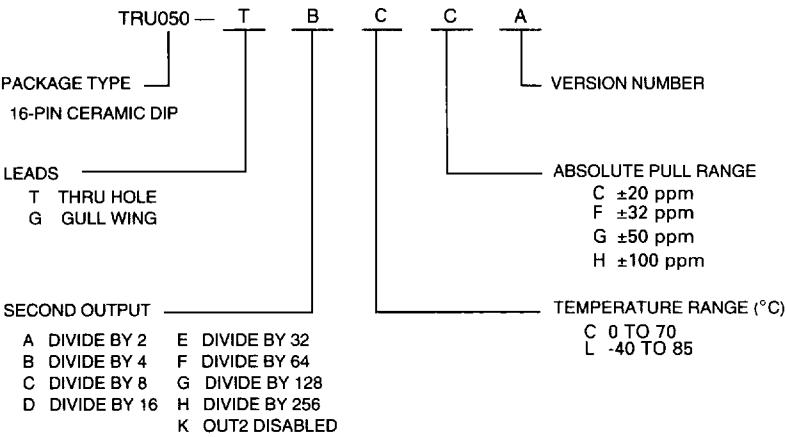

Figure 6. Part Numbering Information
2. OUT2 is a binary submultiple of OUT1, as specified in the device code shown in Figure 6. OUT2 may also be disabled.
Absolute pull range (APR) is specified by the fourth character of the product code (see Figure 6). The APR is the minimum guaranteed frequency shift from F_0 over variations in temperature, aging, power supply, and load. Both frequency and environment limit the specified APR. **The total pull range for the VCXO contained in the TRU050 is typically between 200 ppm and 400 ppm.**